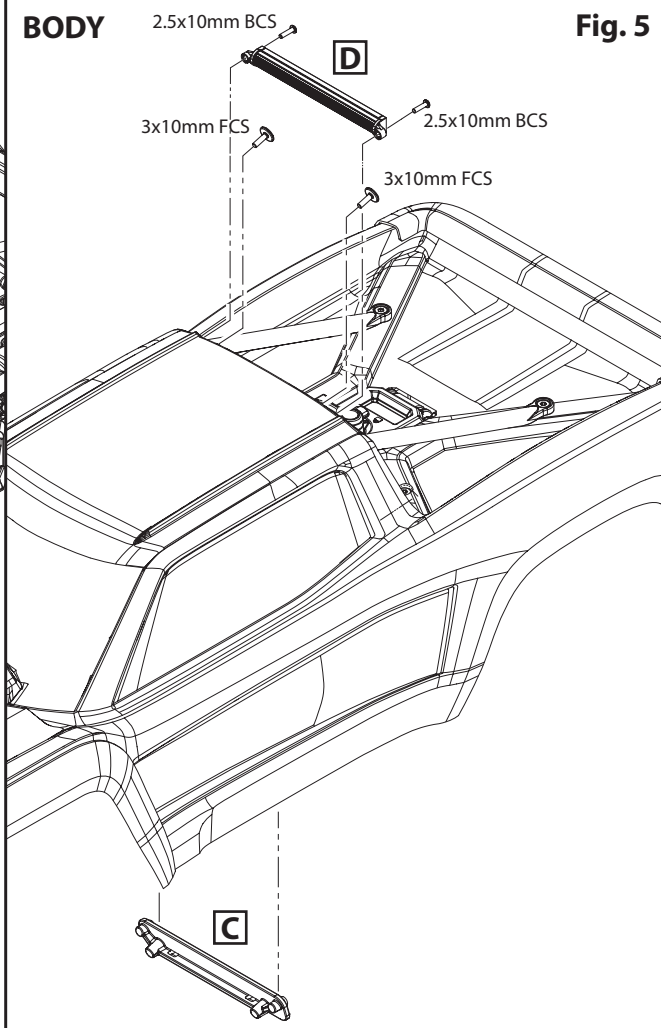
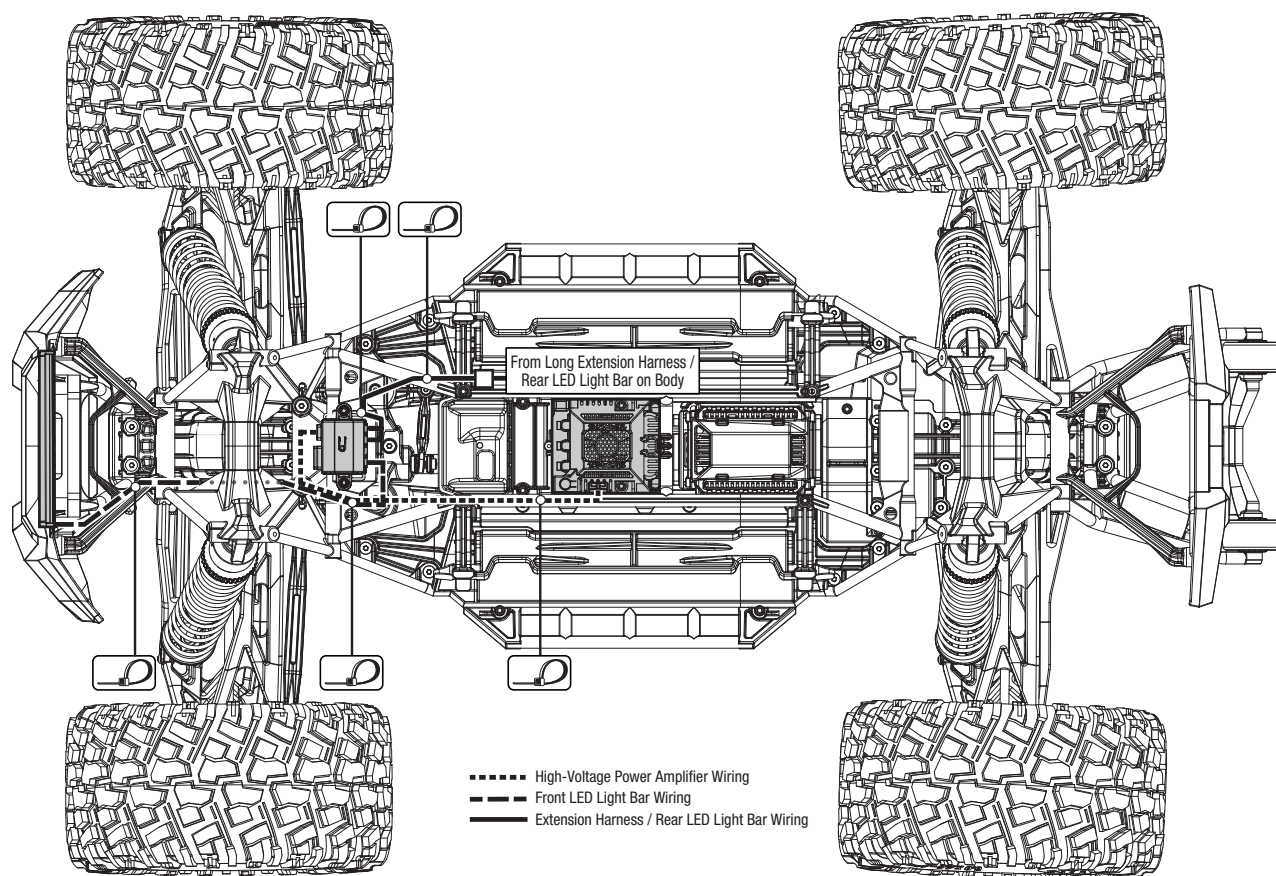

Fig. 5
Fig. 6
High-Voltage Power Amplifier Installation (Fig. 5):
1. Install the high-voltage power amplifier (A) on the truck chassis. Ensure that the connectors on the amplifier face the front of the vehicle. Secure with the 3x12mm button-head screws (2). Refer to the **assembly diagram (Fig. 5)** and **wiring diagram (Fig. 6)**.
LED Light Bar Installation (Fig. 5):
1. Install the front and rear LED light bars; refer to the **assembly diagram (Fig. 5)** and **wiring diagram (Fig. 6)**.